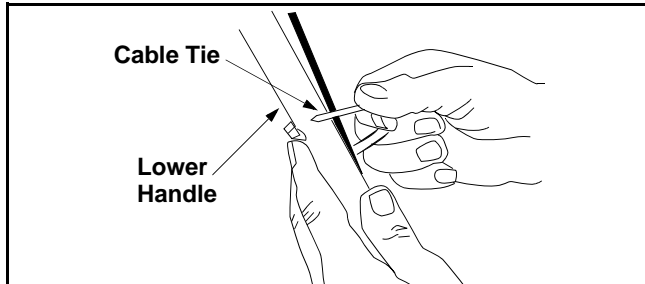

Figure 5
- Fasten the cable to the lower handle with the two cable ties found on the lower handle. Pull the cable ties tight and trim off the excess. See Figure 5.